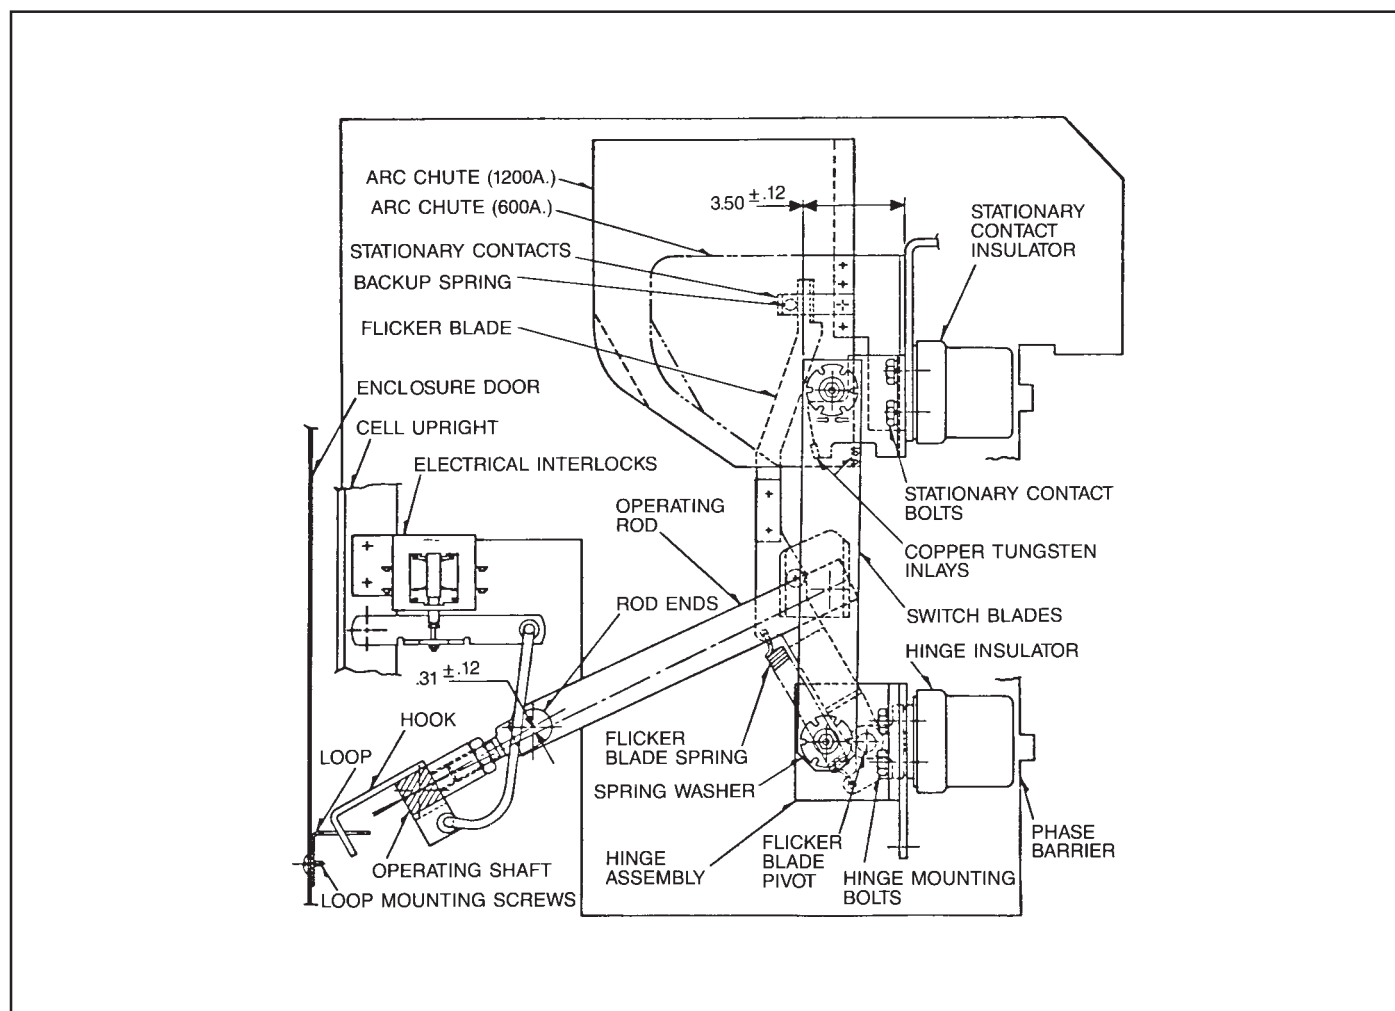

Fig. 6 General Assembly
With the enclosure door shut, a hook mounted on the operating shaft engages a loop on the inside of the enclosure door as the switch mechanism closes. This prevents the door from being opened while the switch is closed. If it is necessary to open the enclosure door without first opening the switch, this interlock may be bypassed by removing, from the outside of the door, the loop mounting screws that attach the interlock loop to the door. See Figure 6.
4. Close the switch slowly by hand and check for proper alignment of the moving contact blades with the stationary contacts. Poor alignment may be corrected by loosening the four hinge mounting bolts on top of the insulators and shifting the blade assemblies as required to provide correct alignment. See Figure 6. In the event the sides of the stationary contacts are not parallel with the moving contact blades, adjust the stationary contacts by loosening their mounting bolts and shifting the position of the stationary contacts on the insulators. See figure 6.
8. Adjust the rod ends mounted on the square operating shaft so that all three main contacts touch within .12" (3.05mm) of each other and the front edges of the switch blades come to rest $3.50" \pm .12"$ (88.9 ± 3.05 mm) from the stationary contact mounting surfaces as shown in Figure 6. In the CLOSED position, both contact projections on the main switch blades must engage the stationary contacts and the flicker blades must also have passed between their stationary contacts. When the switch is closed, however, the contact spring bolt assemblies should not come to rest tight against the shoulders on the stationary contacts and the flicker blades should not be tight against their stops.
- The flicker blade stationary and moving contact inlays do not require dressing unless rough spots or sharp edges, which interfere with proper opening and closing of the contacts are found. The front and back edges of the flicker blades should have a radius or bevel of .016" (4 mm) or more in the area where the blades engage the stationary contacts, to aid contact engagement. Large beads of copper which may collect on the main body of the flicker blades should be removed with a fine file to maintain proper clearance to the arc chute walls. Do not lubricate the flicker blade contacts or use abrasive materials in dressing the contacts. Replace flicker blade contacts when necessary. Also replace the flicker blade contact springs whenever new contacts are installed. See Figure 6.
- (b) When the switch is in the CLOSED position, a second latch pin in the operating gear segment must line up with the notch in the door interlock latch lever. The operating handle should not come to rest tight against the handle stop, and the switch operating linkage must pass the center position as shown in Figure 6.